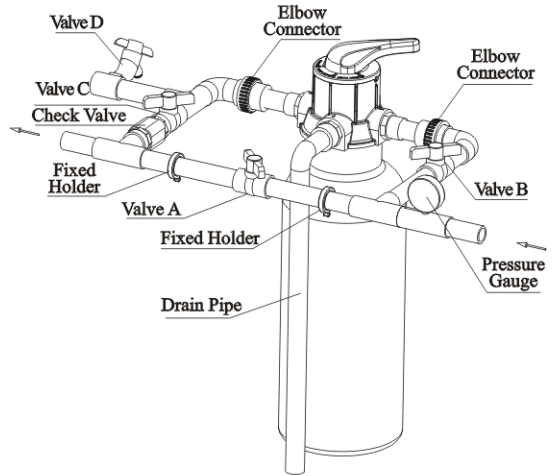

Figure 1-2
②Pipeline connection
- As Figure1-2 shows, install a pressure gauge in water inlet.
- A. Close the inlet valve B & C, and open the bypass valve A. After cleaning the impurities in the pipe, close the bypass valve A. (As Figure 1-2 shows, the same as below)